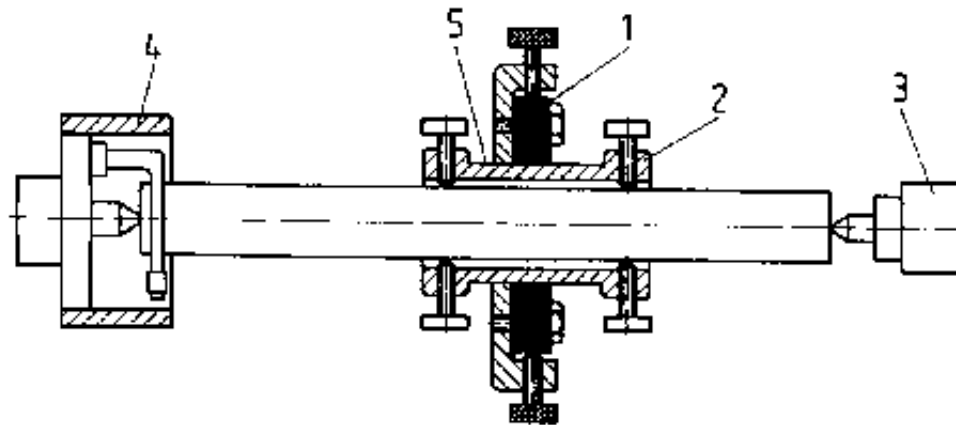

Figure 24 Scroll chuck
- For non-round or uneven contact faces the use of a scroll chuck (Fig. 24) is recommended.**